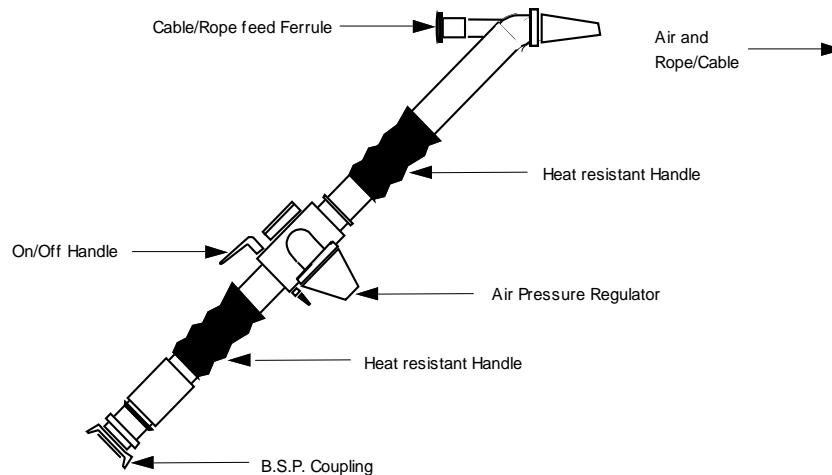

Figure 1 – Example of a fixed head cabling/roping device
- An approved Cabling/Roping Device, e.g. Fixed Head Cabling/Roping Device as shown in Figure 1.